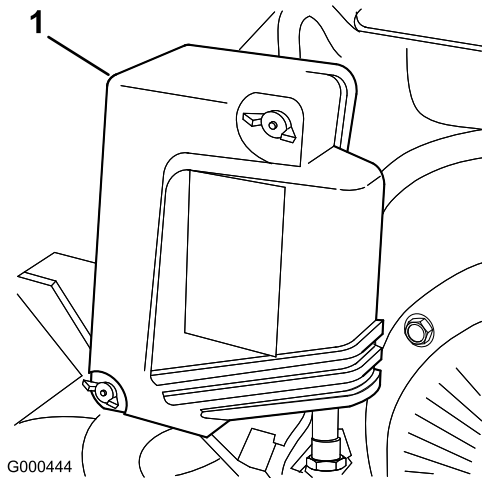

Figure 24
2. Remove wing nuts securing air cleaner cover to air cleaner and remove cover. Clean cover thoroughly (Figure 24).